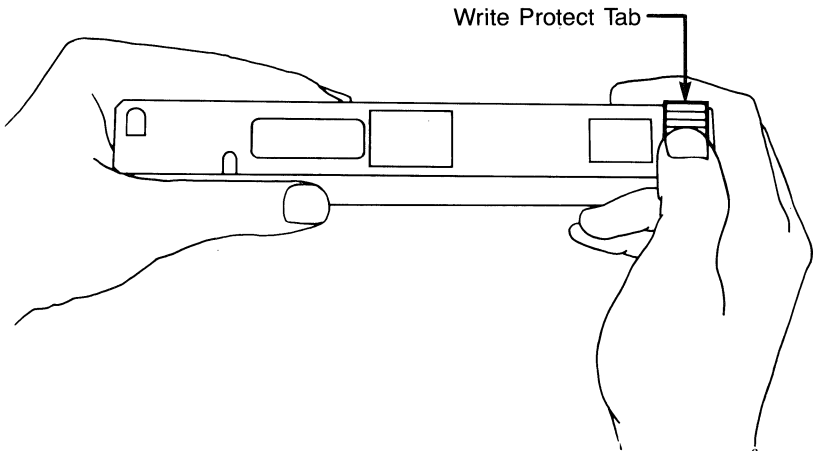

Figure 4. Cartridge WRITE PROTECT Slot and Tab
Included with each cartridge is an insertable tab that allows writing or prevents writing to the disk. The WRITE PROTECT tab is located on the right-hand edge of the cartridge, opposite the identification label. To WRITE PROTECT the cartridge, remove the tab - this prevents accidental writing on the disk. To write on the disk, insert the WRITE PROTECT tab in its slot (see Figure 4).
2. Grasp the front of the cartridge so the **WRITE PROTECT** plug is on the end of the cartridge opposite your hand. The front of the cartridge is the edge with the **DATAPOINT** label (see Figure 4).